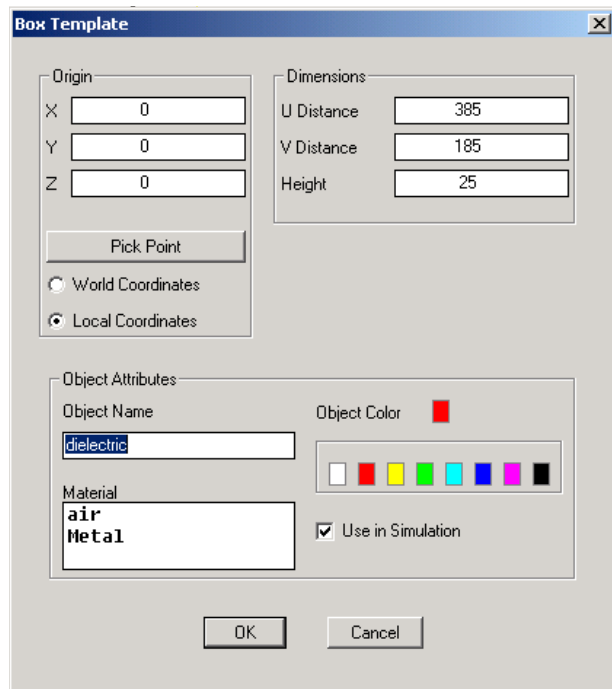

Figure 17 Box Template for the Dielectric
- 5 Refer to the dialog box in Figure 17, and use the displayed data for your box. This object is named *dielectric*.